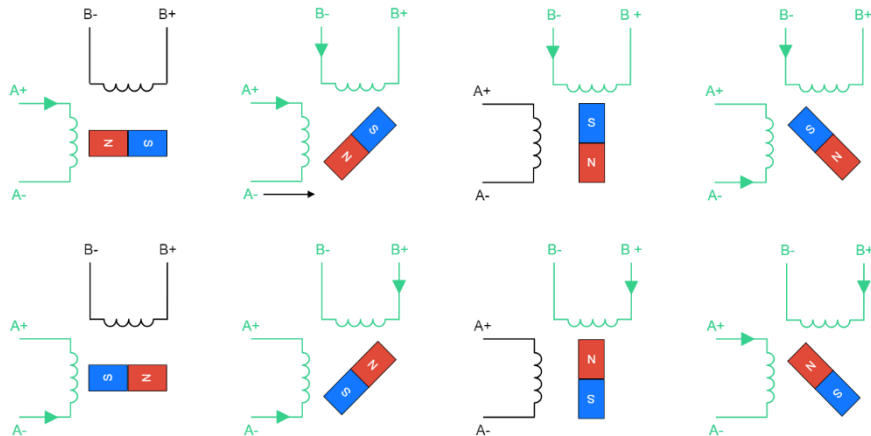

Figure 7: Half-Step Mode Steps
3. **Half-step mode** is a combination of wave and full-step modes (see **Figure 7**).